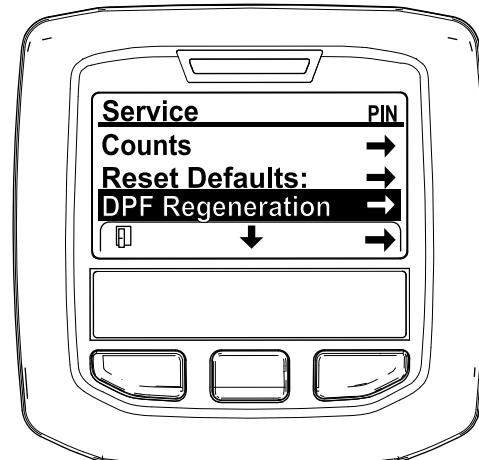

Figure 40
- In the SERVICE MENU, press the middle button until the DPF REGENERATION options displays, and press the right button to select the DPF REGENERATION option (Figure 40).